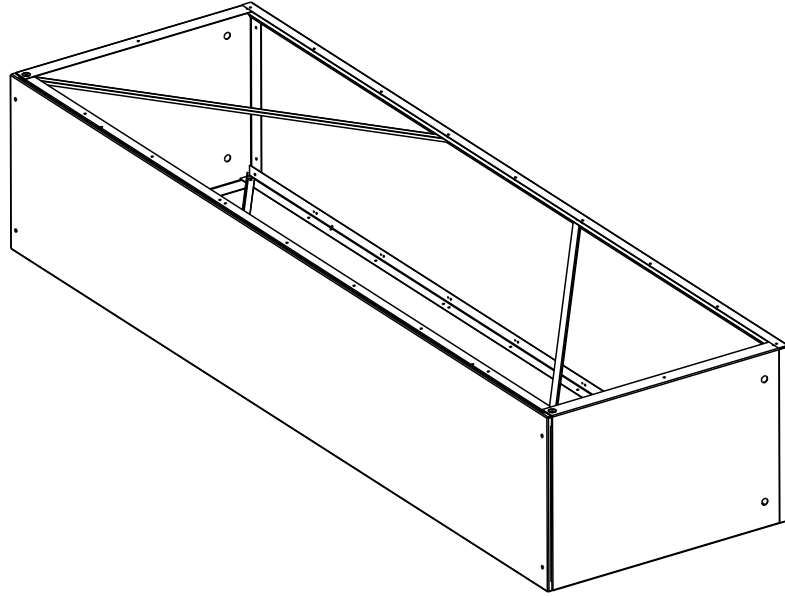

FIGURE 6 - BASE ACCESSORY MODEL 1BS0408
Assemble this accessory per Figures 6, 7 and the following instructions.
NOTE: Recheck Figures 6 and 7 for the proper orientation of the two base angles and the two support braces for the top base.
5. Position angle support as seen in Figures 6 and 7, and secure with two #10 self tapping screws from the top of the base at each outside corner.
6. Secure the opposite ends of angle supports to the rear panel with one #10 self tapping screw each from the top of the base as seen in Figure 6.
NOTE: Recheck Figures 6 and 7 for the proper orientation of the two base angles and the two support braces for the top of base.
10. Position angle supports as seen in Figures 6 and 7, and secure with two #10 self tapping screws from the top of the base at each outside corner.
11. Secure the opposite ends of angle supports to the front base angle with one #10 self tapping screw each from the top of the base as seen in Figure 6.